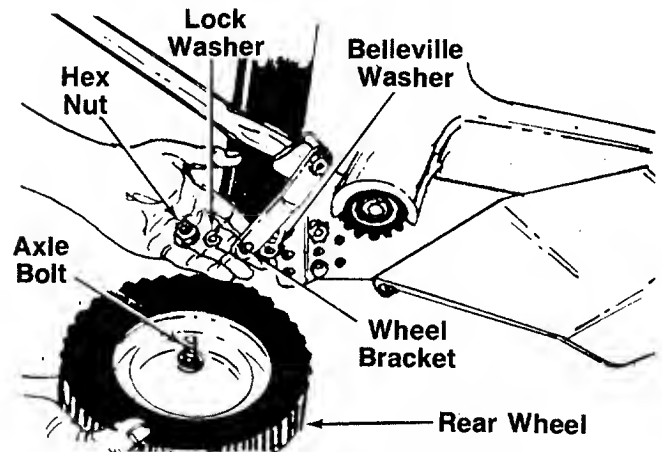

FIGURE 17.
2. Reassemble in selected hole. The belleville washer must be assembled between the link and wheel bracket, with the cupped side of the washer against the deck. See figure 17.